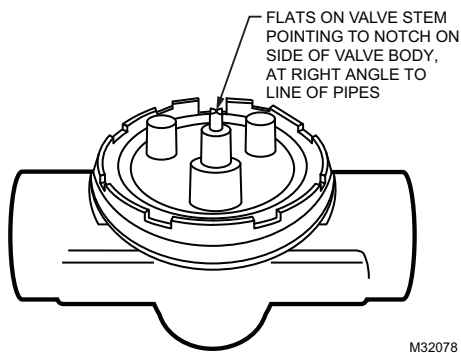

Fig. 4. Slot position.
2. Place the valve on the pipe. Rotate valve stem so that the shaft flats point at the notch in the side of the body (90° to flow directions.) See Fig. 4. This protects the plug inside the valve by removing it from the seat.